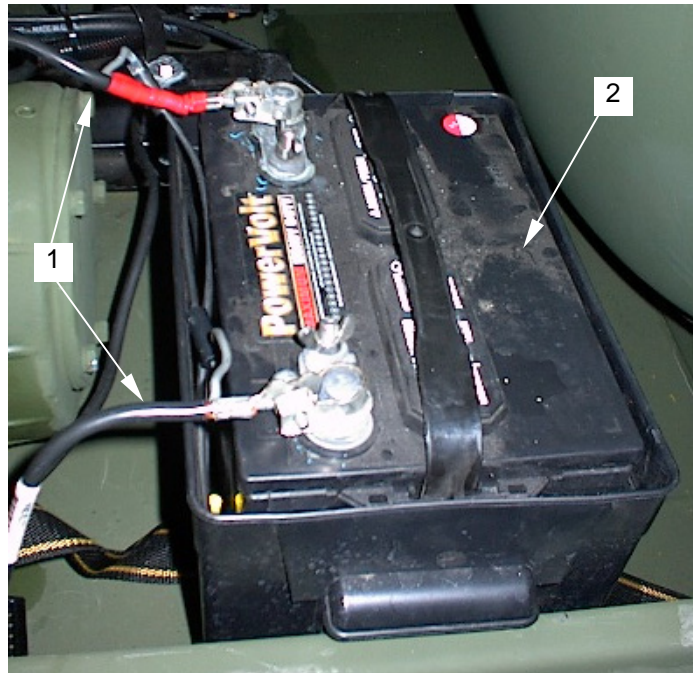

Figure 5. Battery and Cables
7. Connect battery cables (**figure 5, item 1**) to battery (**figure 5, item 2**) as described in WP 0034 00.